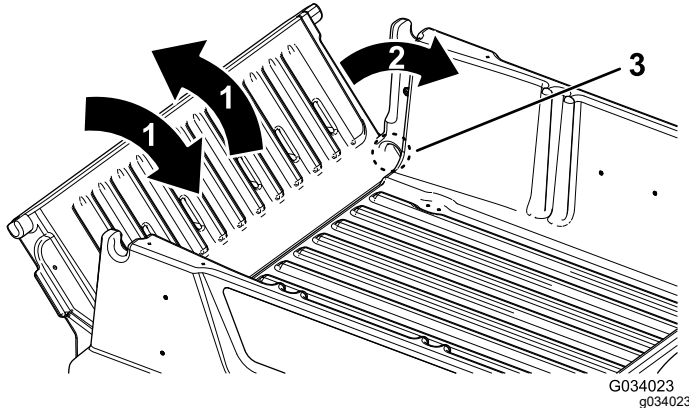

Figure 22
2. Rotate the tailgate to approximately the 45° position (Figure 22).
3. Use a short, shaking motion to rotate the tailgate back and forth several times (Figure 22).